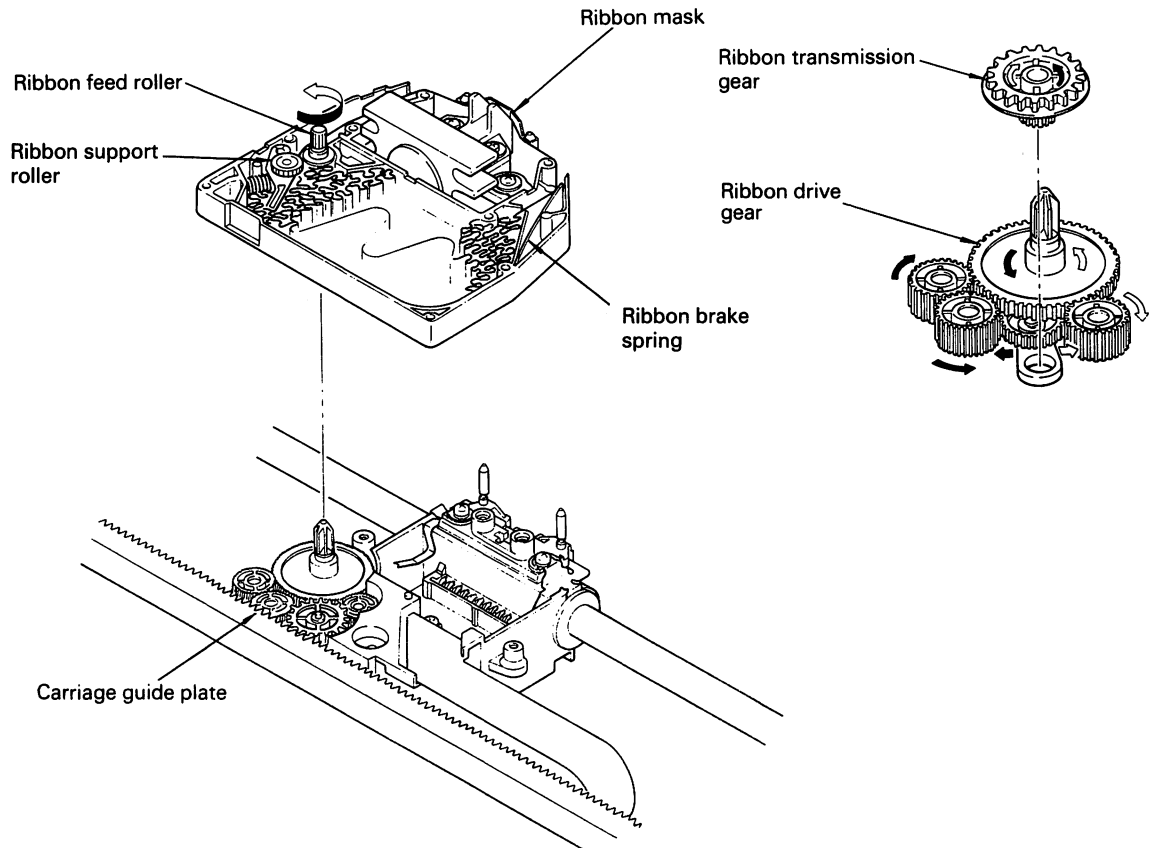

Fig. 2-35. Ribbon Drive Mechanism
2.5.5 Ribbon Drive Mechanism (Fig. 2-35)
The components for ribbon drive are included in the drive gear assembly on the carriage and within the ribbon cartridge (Fig. 2-35). The gear configuration provides for counterclockwise revolution of the ribbon drive gear and unidirectional ribbon movement. The ribbon braking spring improves spring tension.